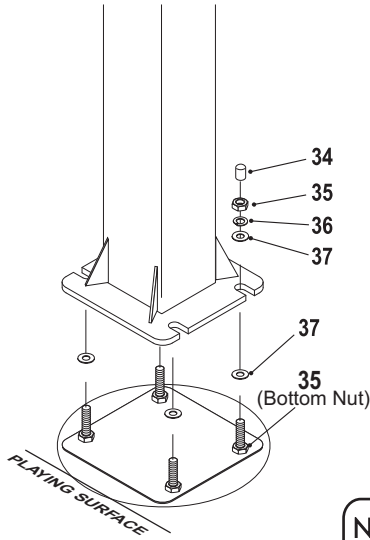

Figure 10
15. Put a flat washer (#37) on each anchor bolt. Lift post onto anchor system and secure with one flatwasher (#37), one lock washer (#36) and one hex nut (#35) for each anchor bolt. Tighten Fasteners finger tight, leave loose enough to level pole. Place a level on pole and adjust bottom nuts #35 until pole is level (left to right and front to back). **Tighten top four hex nuts #35 tight.** Place a thread protector (#34) on each anchor bolt. See **Figure 10.**